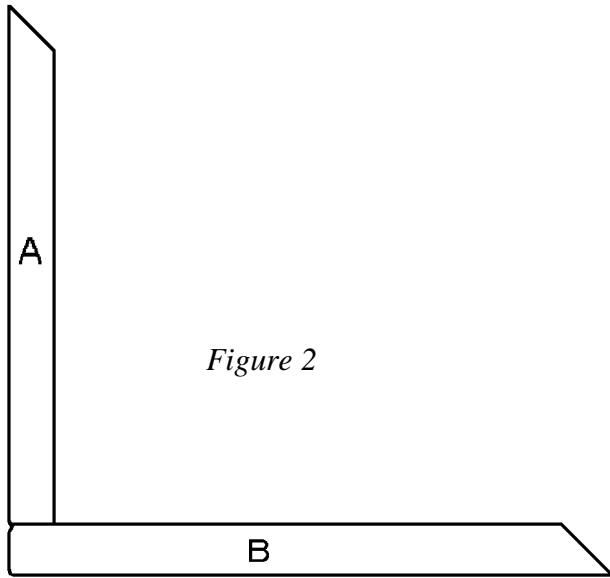

Figure 2
4. Attach Right Back (A) to Right Back (B) as shown in *Figure 2*, using both glue and screws along the entire joint. Use 1-1/4"-long screws evenly spaced about 6 inches.